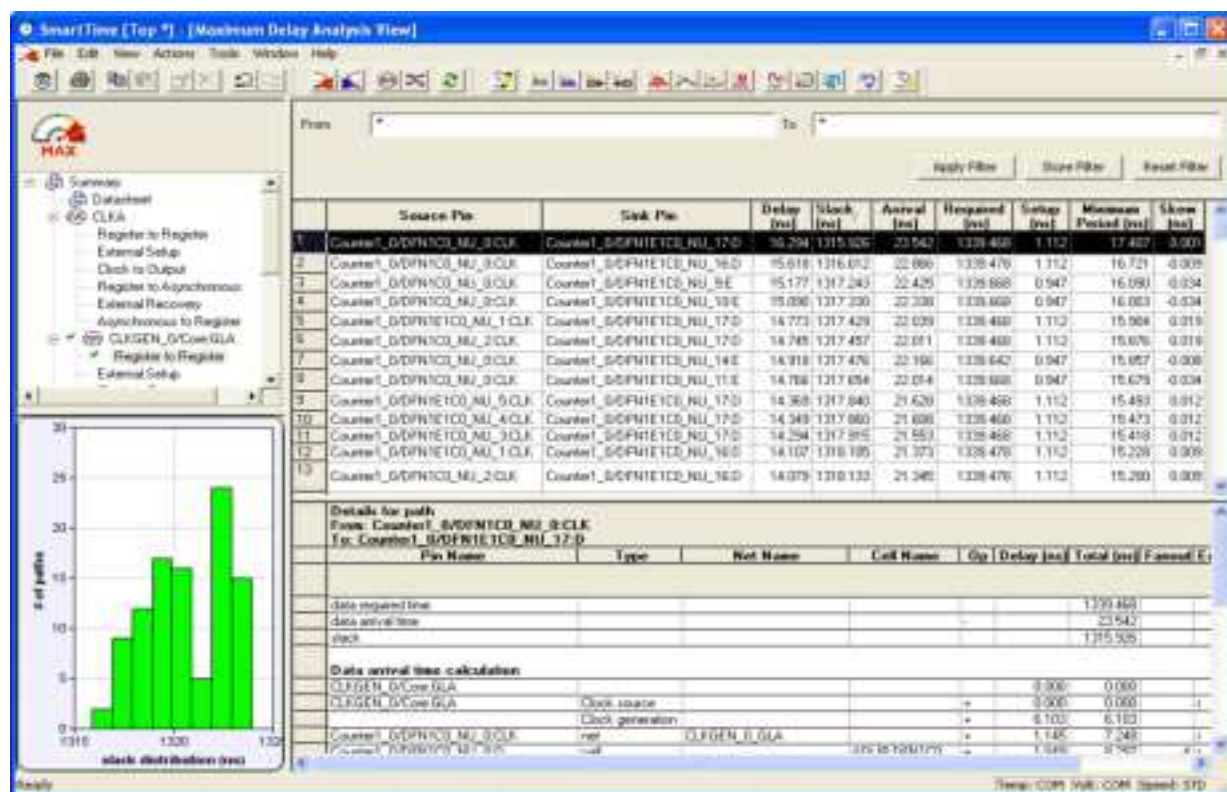

Figure 1-42 • SmartTime Max Delay Timing Analysis
- From the **Tools** menu, choose **Timing Analyzer > Maximum Delay Analysis**. Select the **Register to Register** path set for the **CLKGEN_0/Core:GLA** clock domain. Observe that the Slack column is positive, indicating that there are no timing violations (Figure 1-42).